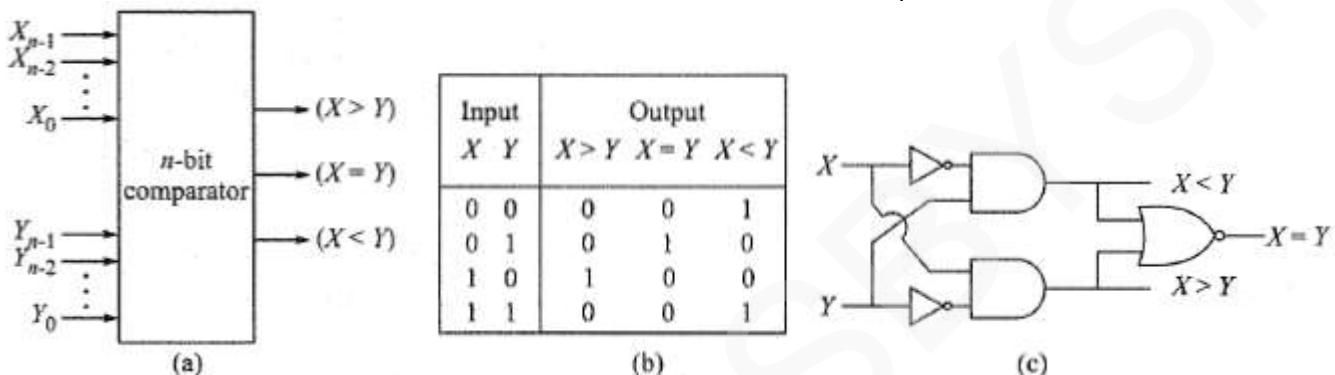

Figure 4.37: a) Block diagram of magnitude comparator b) Truth table c) Circuit for 1-bit comparator.
- activates one of these 3 outputs: $X=Y$, $X>Y$ and $X<Y$ (Figure: 4.37).